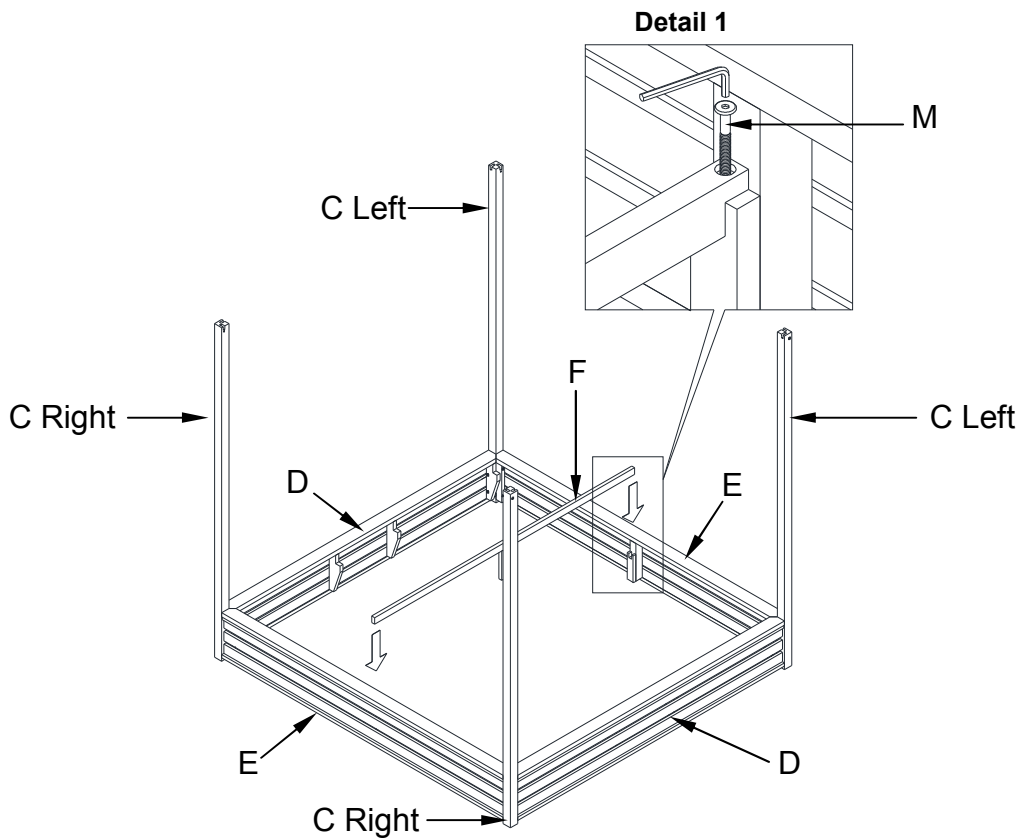

Fig.4
4. Assemble the Center Support (F) to the Left & Right Side Frames (E) as shown on **Fig. 4**.
Insert 2 pcs of Long Allen Bolts (M) and tighten with the supplied Allen Key. See **Fig.4**, detail 1.